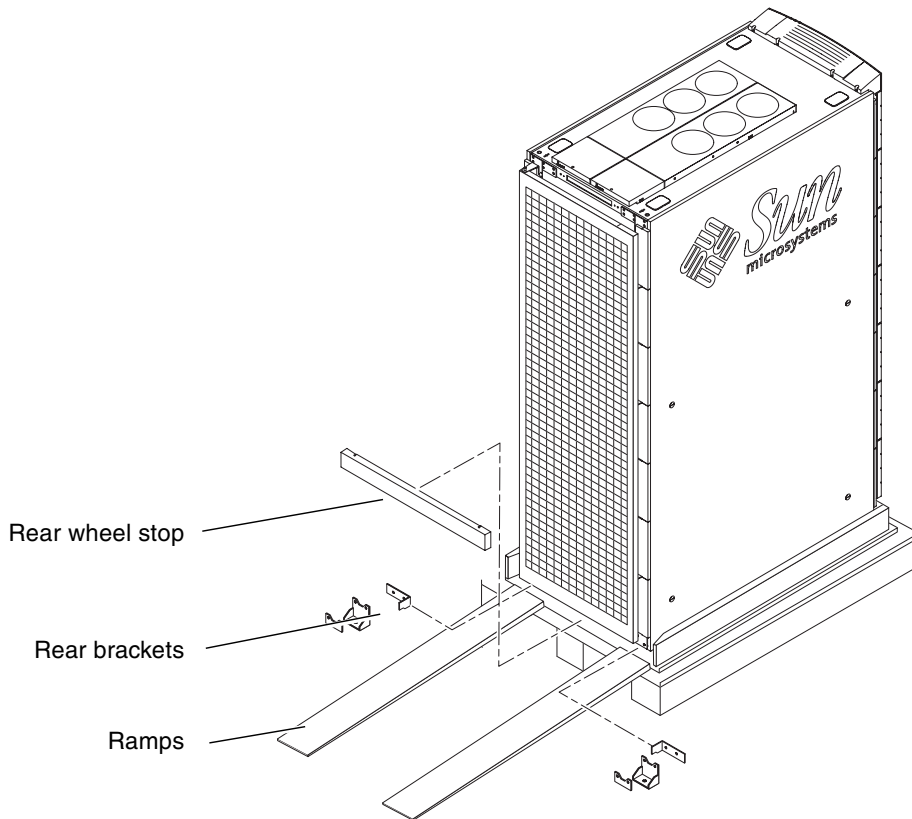

FIGURE 2-4 Removing the Rear Brackets and Rear Wheel Stop and Positioning Ramps
4. Remove the rear wheel stop (FIGURE 2-4).